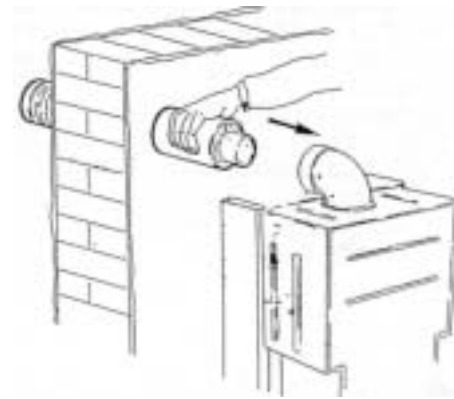

Fig. 35
- 5.7.6** Working above the boiler pull the flue duct towards the elbow in order to engage tube into its header (Fig. 35). Position flue into straight header and push so as to locate inner and outer flue correctly. Ensuring good seal is made with o.rings.